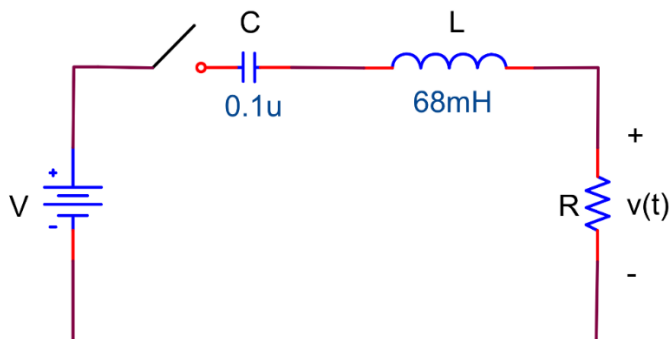

Figure 14.2
1. For the circuit in Figure 14.2, write a differential equation for $v(t)$ (in terms of R , L , and C). What range of values for R correspond to over-, under-, and critically damped cases?
1. Using PSPICE plot $v(t)$ versus t for each of the four circuits, compare them to your experimental results. Recall that the circuit you are analyzing is equivalent to that shown in Figure 14.2 (zero initial conditions). You do not need to use the pulse input for PSPICE.